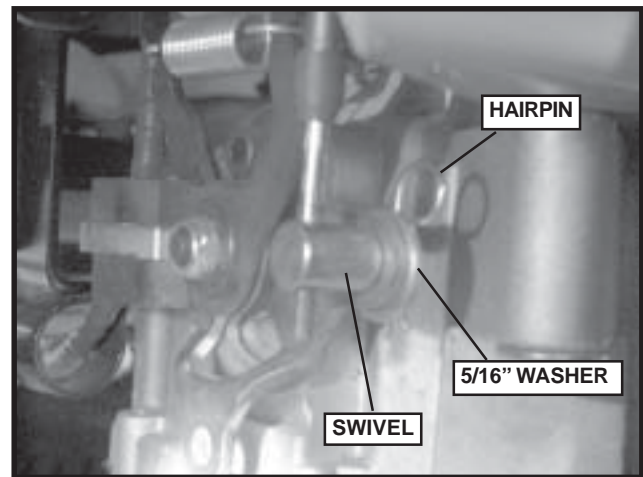

FIGURE 6
1. Reach under the side of the mower and remove the hairpin and the washer from the back-side of the IZT arm. See Figure 6. Repeat on the other side.